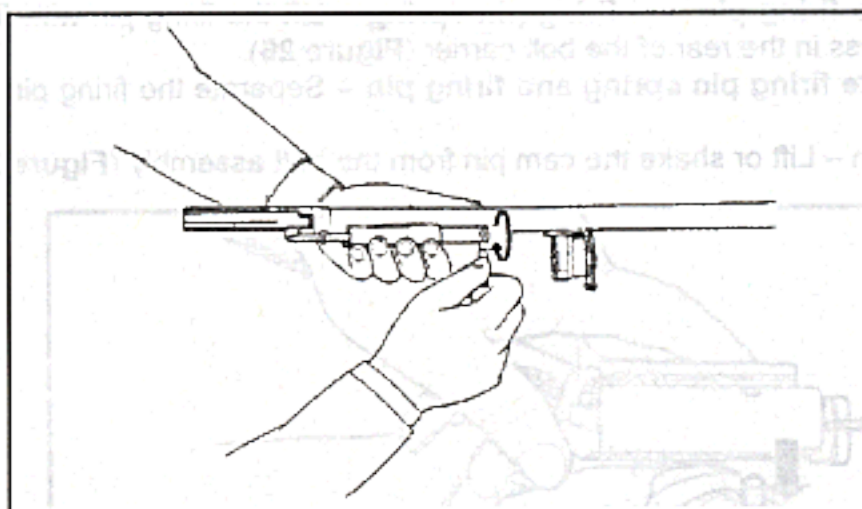

Figure 29. Unscrewing the gas cylinder plug using the bolt handle
- A. Using the bolt handle, remove the gas cylinder plugs by rotating them in a counter-clockwise direction viewed from the front of the barrel (**Figure 29**).